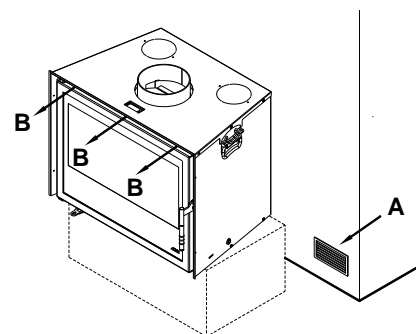

Figure 1 – Natural convection
If this system is chosen, an air intake must be prepared (A) below the stove, that has a free passage surface of at least 150 cm² to allow the natural fresh air flow into the installation cavity and around the stove body. The air for the natural convection ventilation (B) will exit from the front part in the opening between the firebox and the outer cladding and will be uniformly dispersed throughout the room (fig.1).
A Forced Ventilation kit can be installed to supplement the natural convection of the room and circulate the heat where room convection is low. For this system an air intake must be prepared (fig 1. A) below the stove, at east 150cm² free area same as for natural ventilation. Once installed, a built in temperature sensor turns the fan unit on when the motor ambient reaches 50/60°C. This in turn circulates air around the stove and into the room to help the convection process.